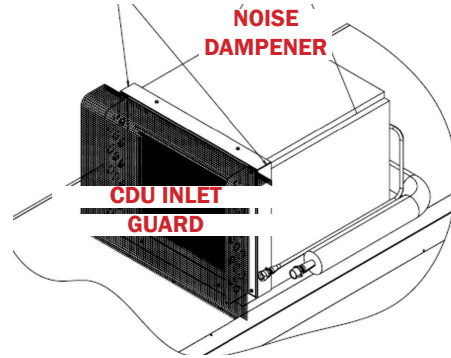

Fig. 13 Low charge housing
3. For low charge cases, the condensing unit inlet guard may need to be removed for doorway entry (Fig. 13). Remove screws connecting CDU inlet guard to top of case and lift housing to remove. Retain all screws and sheet metal that are removed.